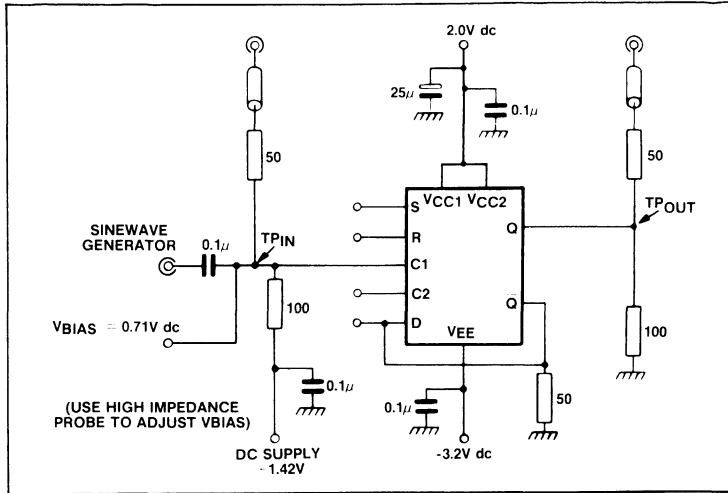
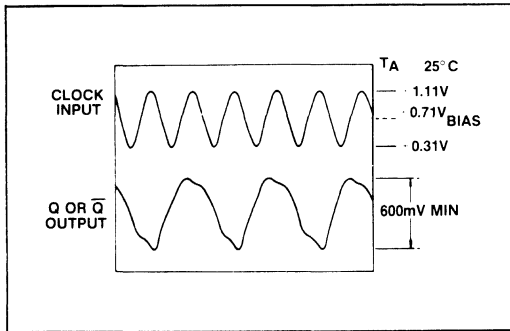

Fig.7 Toggle frequency test circuit
Fig.8 Toggle frequency waveforms
2. The device ceases to toggle (divide by two).  $V_{Bias}$  is defined by the test circuit Fig.7 and by the waveform in Fig.8.